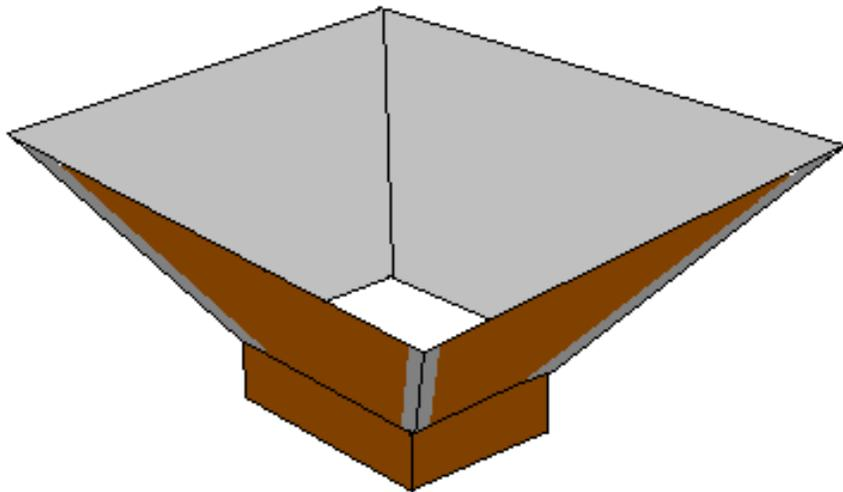

Figure 18. The reflector folded into a rectangular shape.
1. Fold the reflector along the taped seams to form a rectangular funnel shape, as illustrated in Figure 18.